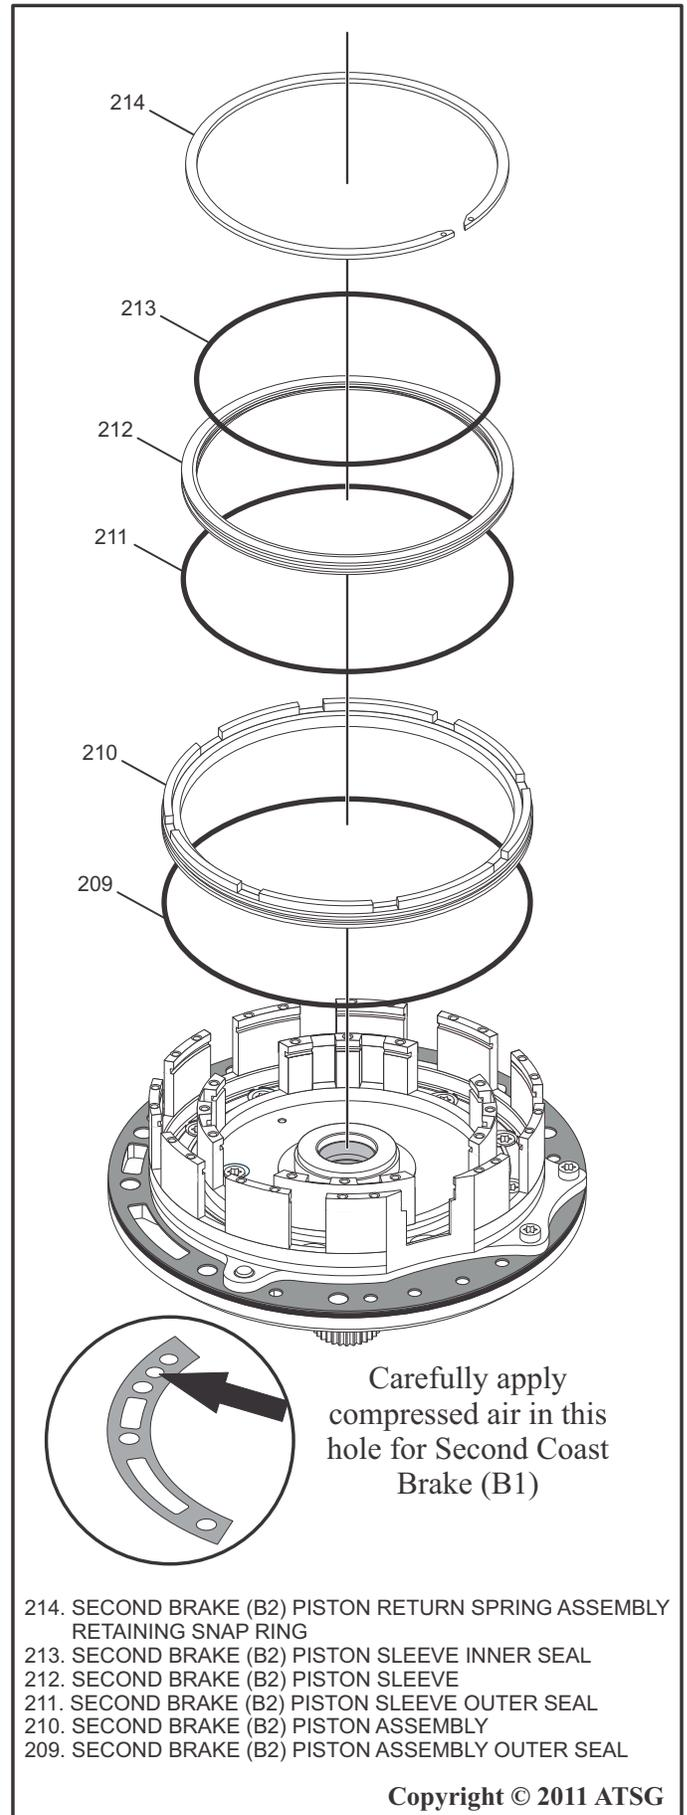

Figure 96
10. Using a pair of snap ring pliers, remove the Second Brake (B2) Piston Return Spring Assembly Retaining Snap Ring as shown in Figure 96.
11. While pulling upward on the piston assemblies, carefully apply compressed air into the passage for the Second Brake (B2) in the pump assembly and remove the Second Brake (B2) Piston Assembly and the Second Brake (B2) Piston Sleeve Assembly as shown in Figure 96.
12. Remove and discard the Second Brake (B2) Piston Inner and Outer Seal, and also the Second Brake (B2) Piston Sleeve Outer Seal as shown in Figure 96.